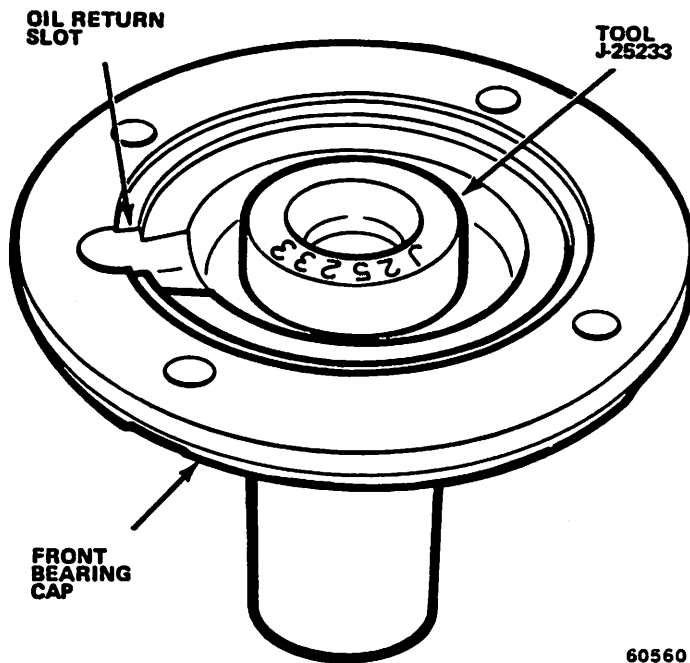

Fig. 2B-67 Front Bearing Cap Seal Installation
(24) Coat bearing bore in clutch shaft and mainshaft pilot roller bearings with petroleum jelly. Install 15 roller bearings in clutch shaft bearing bore.
(25) Coat blocking ring surface of clutch shaft with transmission lubricant and position blocking ring on shaft.
(26) Support mainshaft assembly and insert clutch shaft through front bearing bore in case. Seat mainshaft pilot hub in clutch shaft roller bearings and tap front bearing and clutch shaft into case using rawhide mallet.
(27) Install front bearing cap and tighten cap bolts finger-tight only.
(28) Position rear bearing on mainshaft. Do not install bearing locating ring at this time. Start bearing into shaft and into case bore using Tool J-29345. Remove tool and complete bearing installation using rawhide mallet. When bearing is fully seated on shaft, install bearing retaining snap ring.
(29) Remove front bearing cap, seat front bearing fully on clutch shaft and install bearing retaining snap ring.
(30) Apply thin film of sealer to front bearing cap gasket and position gasket on case. Be sure gasket notch is aligned with oil return hole in case.
(31) Remove front bearing cap oil seal using screwdriver and install replacement oil seal using Tool J-25233 (fig. 2B-67).